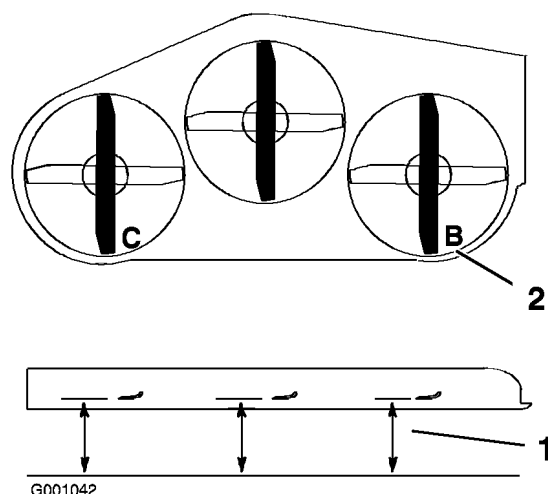

Figure 62
2. Position the blades side-to-side (Figure 62). Measure at **B** and **C** locations (Figure 62) from a level surface to the cutting edge of blade tips (Figure 62).